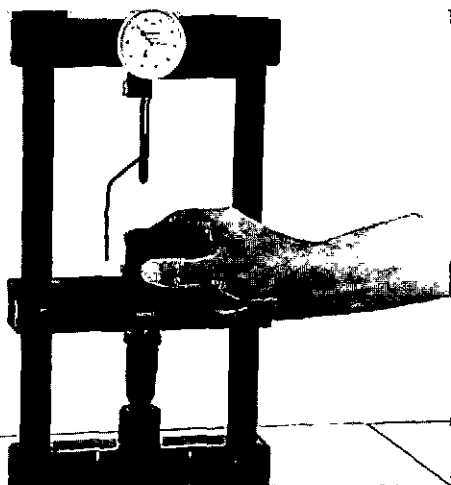

Fig. 4-4, (F60228). Install the injector into the 3375160 Setting Fixture
3. Install the injector in the setting fixture. The wrench flats on the adapter will locate the injector in the fixture. The cup must be centered over the cup seat, Fig. 4-4.